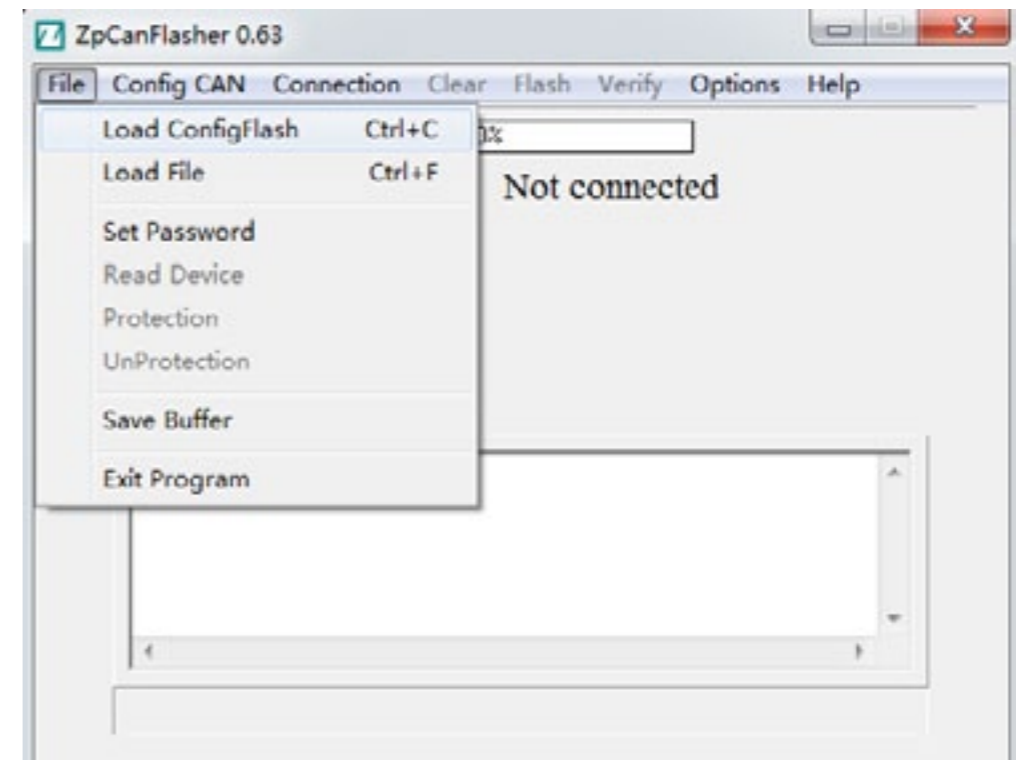

Fig.1.1.4
2. Click “File” → “Load ConfigFlash Ctrl+C”, as shown in Fig. 1.1.4.